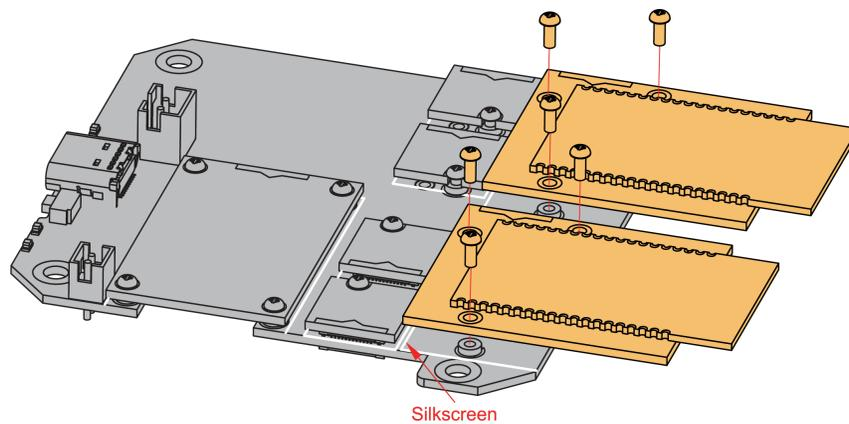

Figure 17: WisBlock IO silkscreen on the RAK19011 Base Board
A WisBlock IO module is designed to be installed on the IO slot of the RAK19011 WisBlock Dual IO Base Board with Power Slot. There are two (2) IO slots in the RAK19011 WisBlock Dual IO Base Board with Power Slot. As shown in **Figure 17**, the location is properly marked by silkscreen. Follow carefully the procedure of the section, attaching a WisConnector, to attach a WisBlock IO module. Once attached, fix the module with three pieces of M1.2 x 3 mm screws.